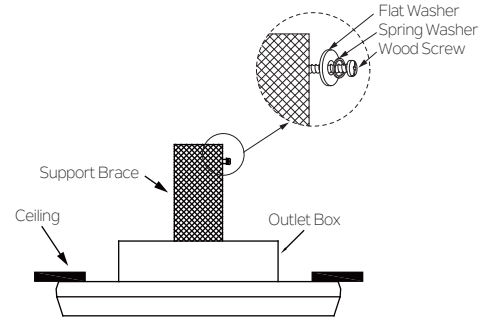

Fig. 11
Step1. Slip the spring washer, then the flat washer onto the wood screw, then drive the wood screw into the side of the brace that holds the outlet box. Leave 3mm (1/8") of space between the support brace and the flat washer. (Fig.11)